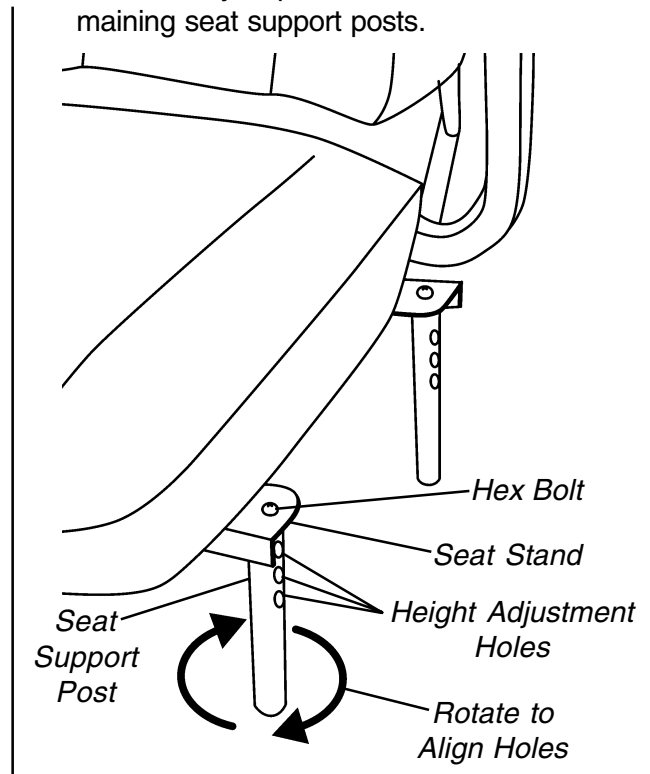

FIGURE 6 - ADJUSTING THE SEAT SUPPORT POSTS
**ADJUSTING THE SEAT SUPPORT POSTS (FIGURE 6)**
*NOTE: If the retaining pin will NOT pass through the seat mounting support AND through one (1) of the three (3) height mounting holes in the seat support post, perform the following steps:*